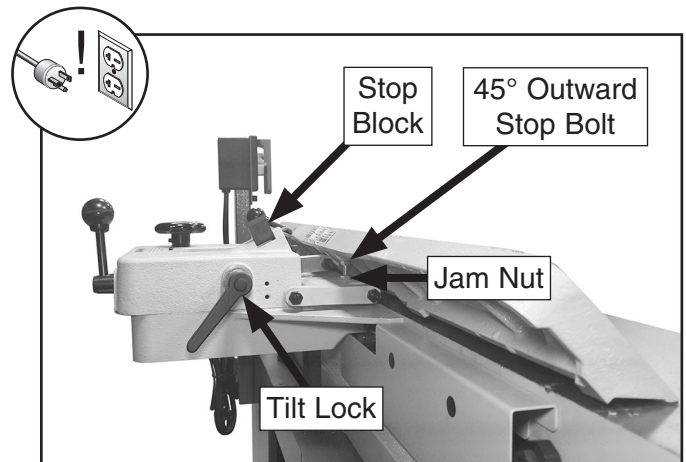

Figure 63. Fence set to 45° outward.
- Loosen fence tilt lock, rotate stop block up, then tilt fence approximately 45° inward onto stop bolt (see **Figure 63**).
- Loosen jam nut on 45° stop bolt and adjust stop bolt until fence is exactly 45° outward while resting on stop bolt (see **Figure 63**). Verify angle, then retighten jam nut.